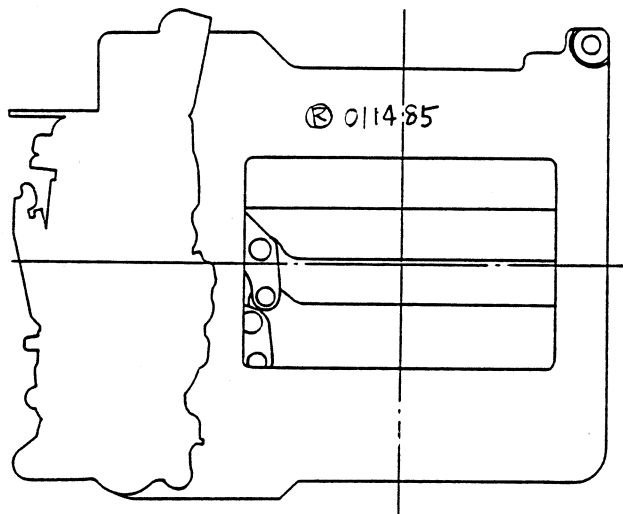

Figure 7.
4. Use a pencil to write the mark " $\textcircled{R}$ " and the date of repair on the aperture plate. It will give a reference for future repair. See Figure 7.